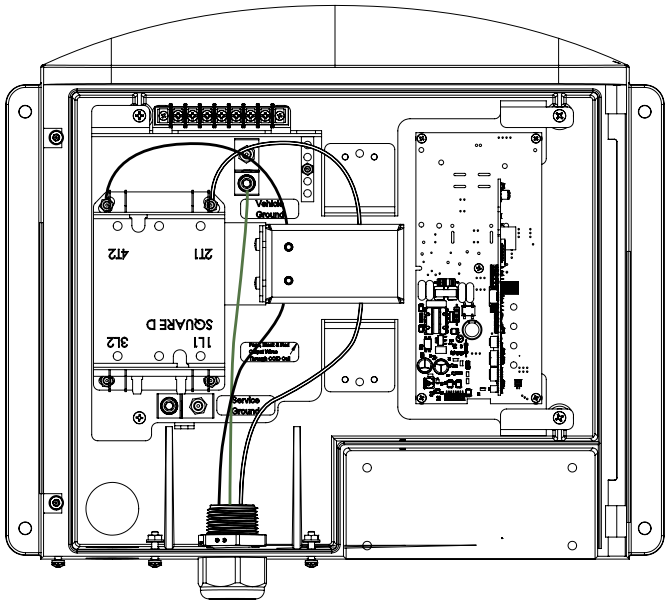

Figure 8: J1772 Cable connection wiring instructions
- When connecting the output cable, ensure both the 120 VAC (line 1 and line 2) conductors pass through the charge circuit interrupting device (CCID) sense coil, as shown in Figure 8.